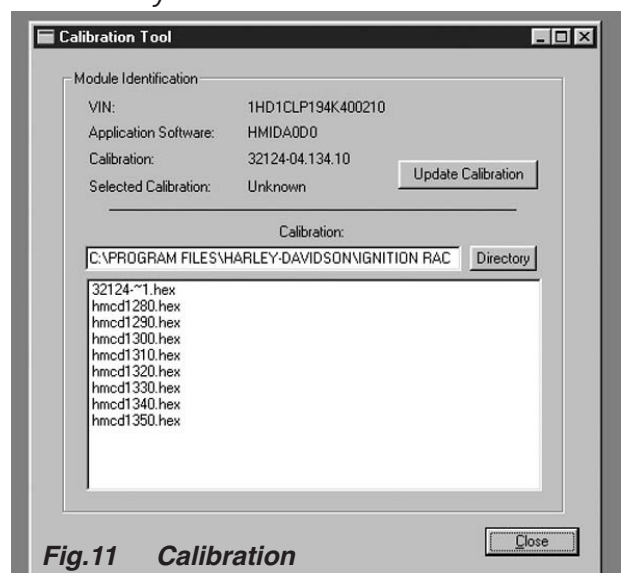

Fig.11 Calibration
- Set calibration to: HMCD1340, HEX (32124-04.134) hmed 1340. See Fig. 11